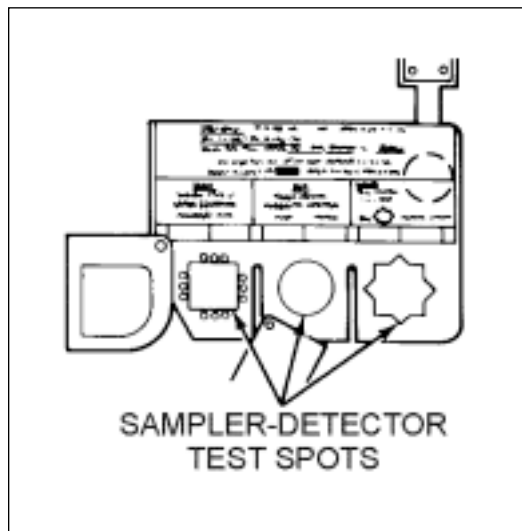

Fig 4-21. Front side of sampler-detector.
- (19) Turn the sampler detector over to the reverse side, and compare the colors of the test spots with those shown on the sampler detector (fig 4-21).